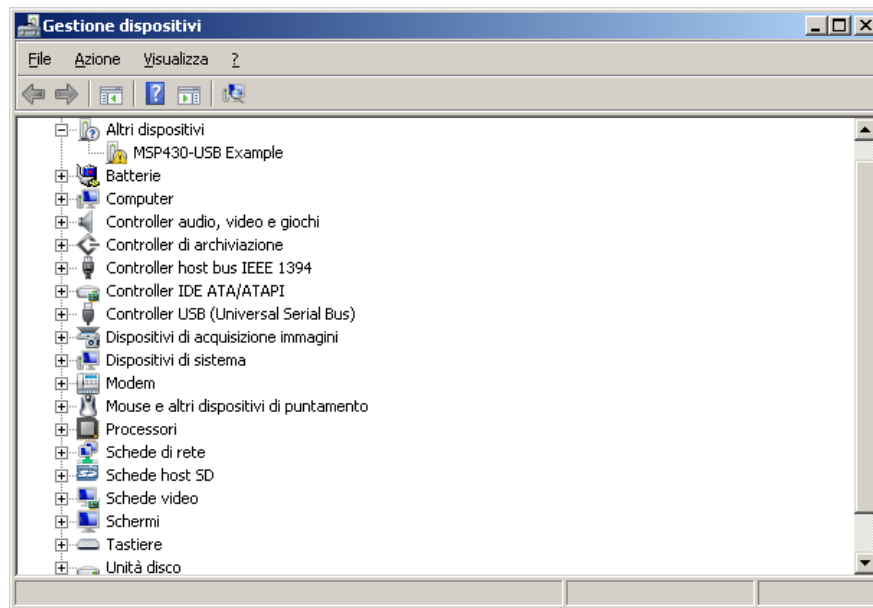

Figure A.2: Device Manager
4. In the devices list of your PC will be marked with a warning, as in Figure A.2, because the PM50xx weren't recognized.